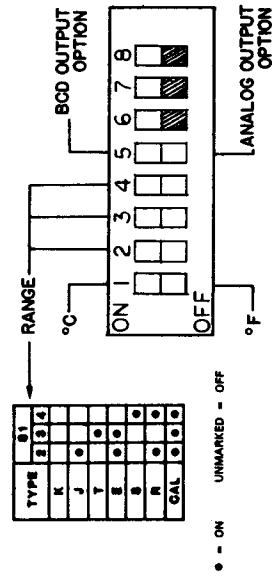

FIGURE 2-3. INSTRUMENT CONFIGURATION SWITCH ASSEMBLY
2.3.1 *Configuration Switch.* A mini-DIP switch assembly is used to configure the indicator for the input type, output option type, and temperature scale. See Figure 2-3. Nominal settings for the indicator are for Type K input; with Fahrenheit readout selected for 120 VAC and DC power units, and Celsius readout selected for 100/200/240 VAC units. The configuration switch is easily reset to accommodate different requirements. To gain access to this switch, remove the front panel assembly as follows:
- b. Remove plastic lens (5) from bezel (3) by carefully prying on one side of lens with a small knife, then pulling lens out from side.
- c. Loosen panel mounting clamps (11) and slide instrument halfway out from panel cutout.
- d. Remove four screws (10) attaching front panel assembly to case.
- e. Detach front panel assembly from case. Configuration switch assembly is on left front of main board. Configure instrument for desired range, output option (if used), and °C or °F readout per Figure 2-3.